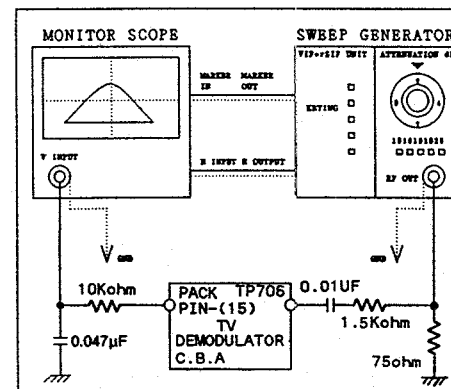

FIG.E31
3. Connect the SIF sweep generator to TP706 and connect the monitor scope to TV Demodulator C.B.A.-(15) as shown in Fig. E31.